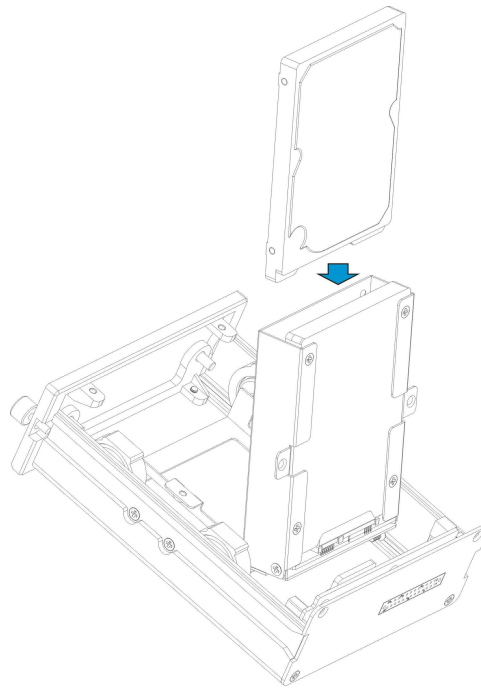

Figure 3-4
4) Install the second HDD. Please refer to Figure 3-4 to put the second HDD to the HDD bracket.